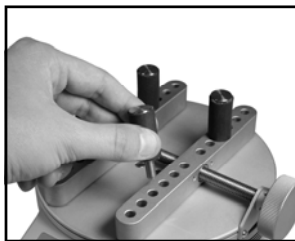

Fig. 1
- 2. Place the tester on a firm, flat and level working surface free from vibration. If preferred, the CTA can be secured to a work bench with screws through the four tapped holes in the underside of the base. Then fasten the sample gripping posts into the desired holes on the sliders (see Fig. 1).
Place the sample between the posts or jaws of the tester, and tighten, using the knob. Posts can be placed in any of the holes on the sliders (see Figs. 1 & 2 below). Ensure that the sample is gripped firmly, however, excessive tightening of thin-walled closures may result in sample deformation, possibly affecting test results. When the sample is secured, ***gradually*** exert torque by hand. Sudden torque application may produce incorrect readings.